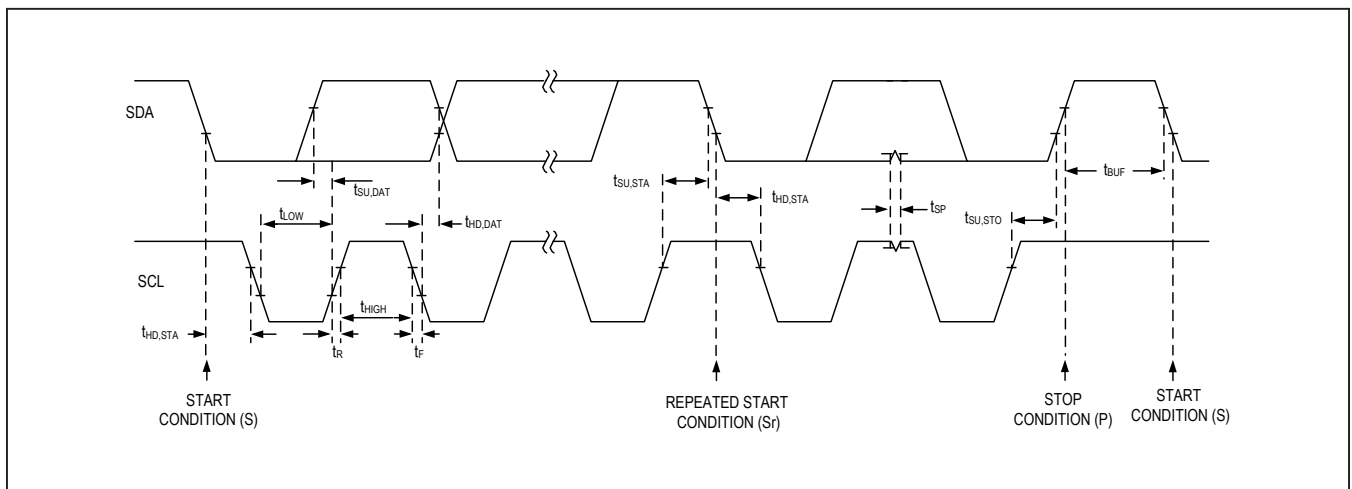

Figure 5. I2C Serial-Interface Timing Diagram
The bus remains active if a Repeated START condition is generated instead of a STOP condition; this is often used in combined-format read operations. See Figure 5 for examples that show the generation and proper use of START (S), STOP (P), and Repeated START (Sr) conditions.
A command byte follows the slave address. A command byte is typically followed by one or two data bytes unless it is the last byte in the transmission, as would be the case for readback operations (see Figure 5). If data bytes follow the command byte, the command byte indicates the address of the register that should receive the data bytes that follow. The data bytes are stored in a temporary register and then transferred to the appropriate register during the ACK periods between bytes.